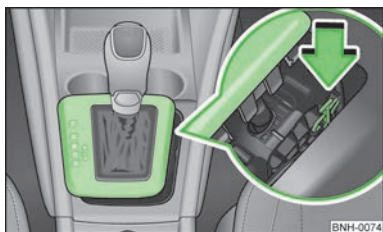

Fig. 72
- > Use a finger to press the yellow plastic part in the direction of the arrow » Fig. 72.